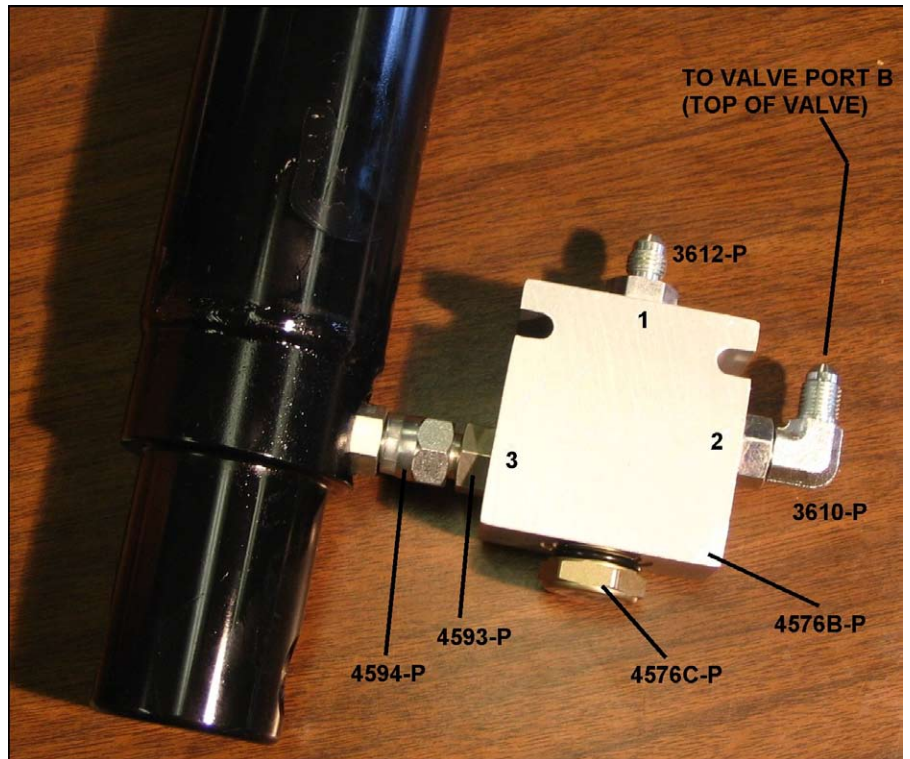

Figure 2
7. Install the upgrade hydraulics, as shown in figure 2, using the Morse part # 4576KIT-P Kit to Convert Check Valve 3131-P to Check Valve 4576-P.